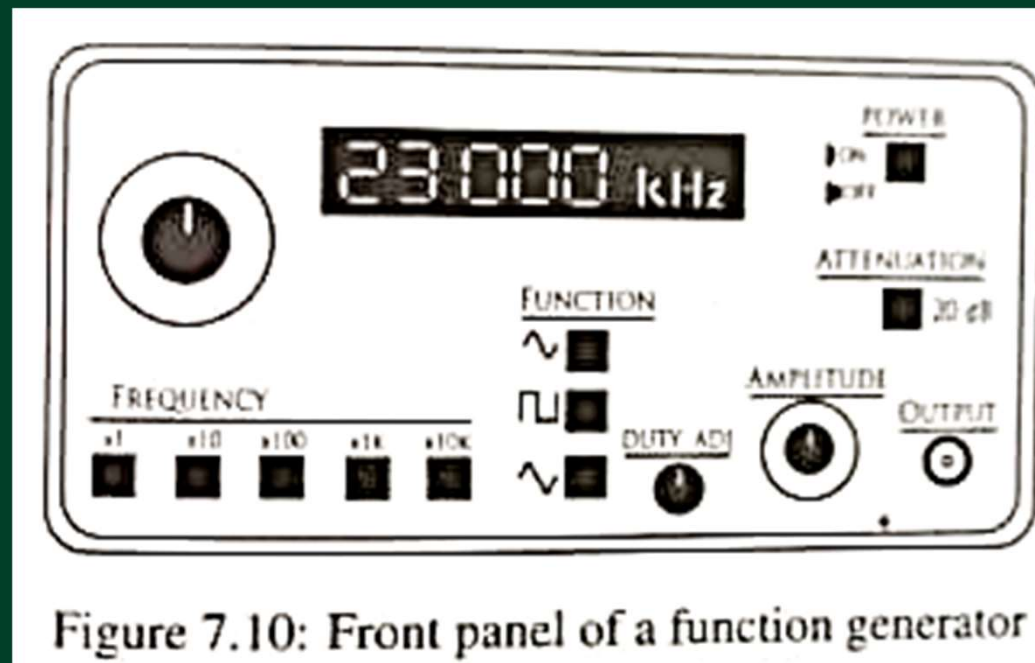

Figure 7.10: Front panel of a function generator
- The front panel of a function generator is shown in figure. 7.10